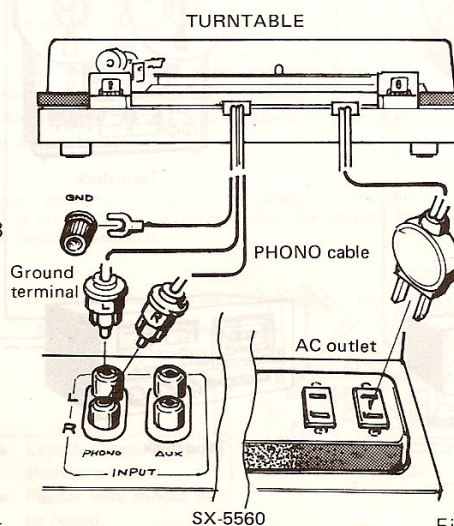

Fig. 4
1. Strip approximately 15mm of insulation from the end of each speaker lead (Fig. 4).
3. As shown in Fig. 4, while pushing down the button with a finger, insert wire end in the connector.